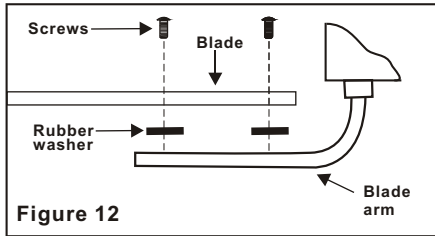

Figure 12
Step 1 Attach the blades to the blade arms using three screws and rubber washers as shown in Figure 12. Start a screw into the arm, do not tighten. Repeat for the 2 remaining screws and washers.